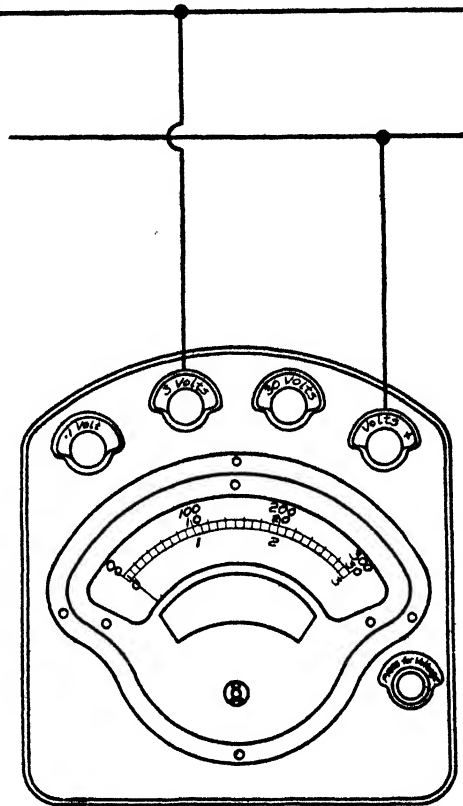

Fig. 4. Diagram Showing 3-Volt Scale Connected across a Circuit
*Voltage Tests.* When the instrument is used as a voltmeter it is necessary to select the proper scale for the circuit, and if there is any doubt it is well to start with the 30-volt scale. For testing individual cells of the storage battery the 3-volt scale would naturally be used, while for testing the entire battery, the 30-volt scale would be the proper one to apply. The proper method of connecting the voltmeter to the circuit is shown by the diagrams, Figs. 4 and 5. It is necessary to connect the positive side of the meter to the positive side of the circuit and the other terminal to the negative. Where the polarity of the circuit is not known, this can be readily determined by a trial reading. If the pointer moves to the right, the connections are properly made; in case it moves to the left, it will be necessary to reverse the connections, which should be done at the circuit terminals and not at the meter, to avoid any accidental short circuits.